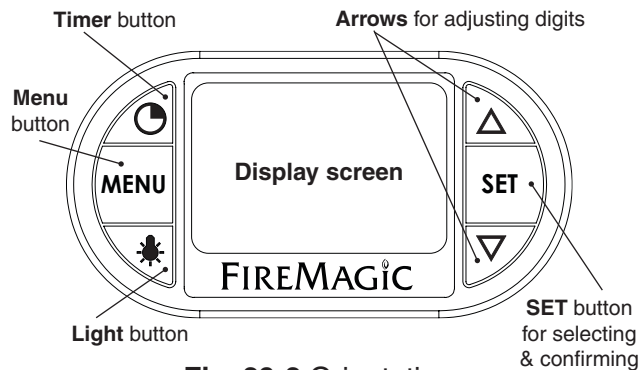

Fig. 29-2 Orientation
Read the following sections completely regarding thermometer operation. Refer to Fig. 29-2 for thermometer orientation and button locations.
1. Press the light button to turn both the interior oven lights and knob backlights **ON** (see Fig. 29-2). The interior oven lights will temporarily shut off when the hood is closed (except for Magic View models).